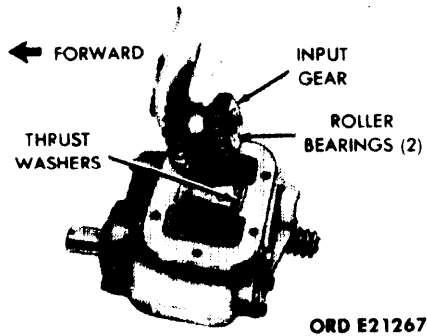

Figure 5-6. Removal of Input Gear, Gear Roller Bearings, and Thrust Washers.
(2) Lift the gear from the case and remove the roller bearings from the gear, then remove the thrust washers from the respective positions. (See fig. 5-6.)